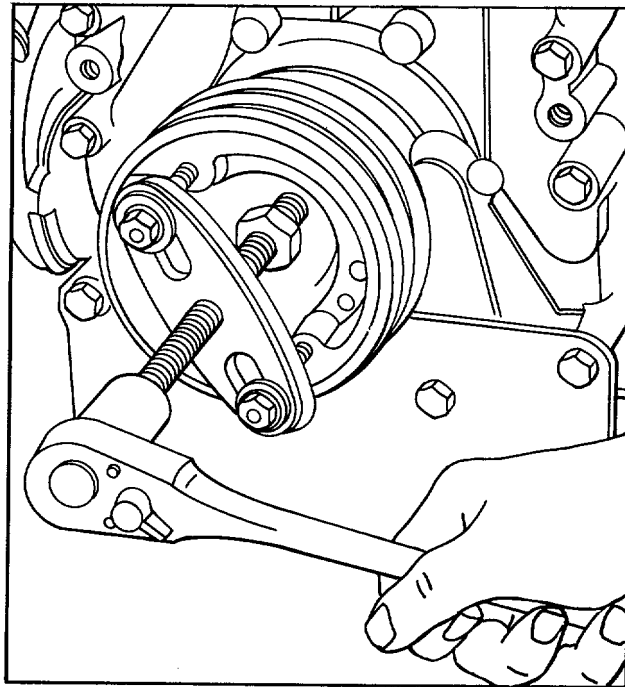

Figure 1. Removing Crankshaft Pulley Using Puller J 24420
3. If a rigid-type pulley is being removed from an in-line engine, install the pulley retaining bolt and puller J 24420 as shown in Fig. 1. Then force the pulley off the crankshaft by turning the puller center screw in.